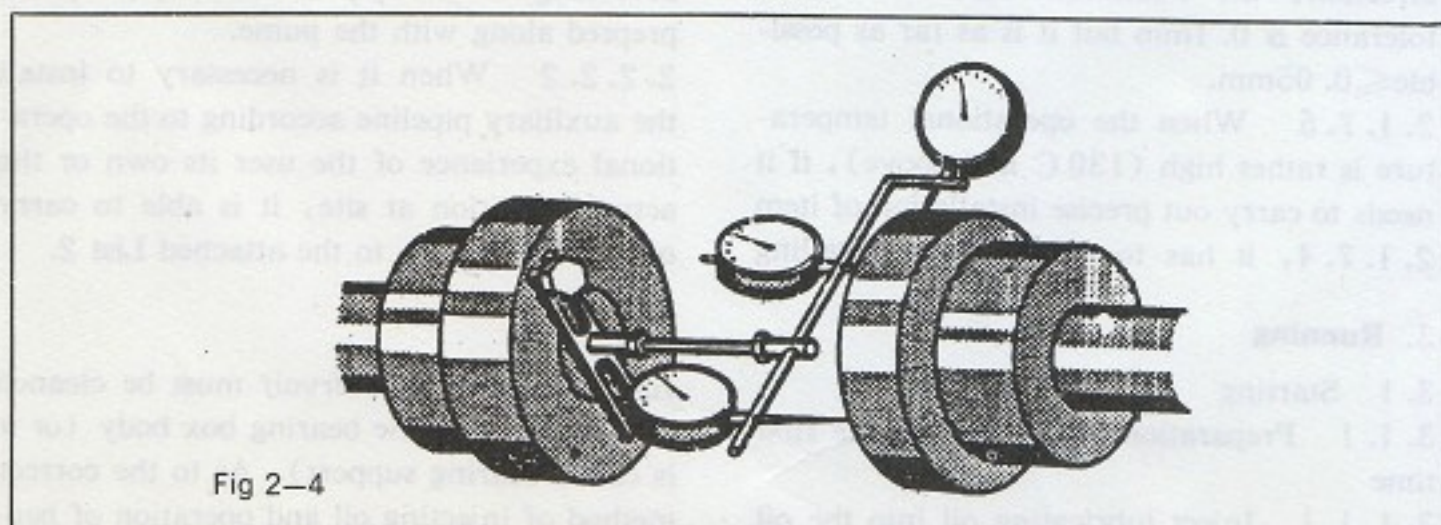

Fig 2-2
2. 1. 6. 1 Have the foundation bolts plugged into the bolt holes of the base and screw on washers and nuts. Have the pump unit placed on the foundation and use steel spacers of different thickness to place between the bottom surface of the base and the surface of the foundation after recondition to have the pump regulated to level. Between the base and foundation, certain clearance for grouting should be reserved. Use leveller to check the installation of pump unit according to the method shown in Figure 2-2. The maximum allowable deviation is 0. 1mm/m.
2. 1. 6. 3 After the concrete has been solidified, screw tightly the foundation bolts and nuts. Check the level again according to the level (shown in the Figure 2-2). If on the pump position there occurs change, it must be rectified again.